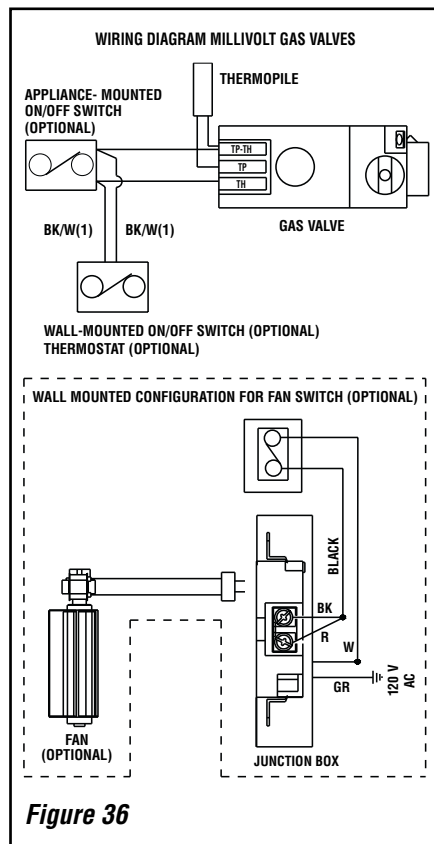

Figure 36
A. Millivolt Wiring (See *Figure 36*) –